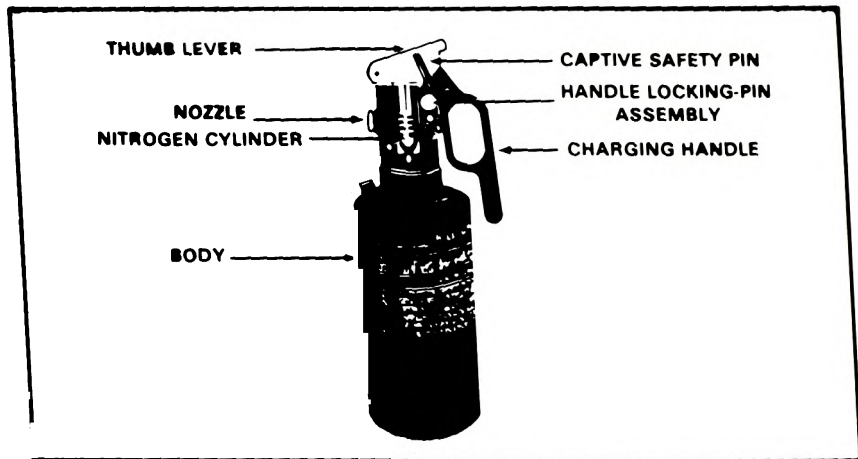

Figure 1. Remove captive safety pin.
1. Remove the captive safety pin (fig 1).